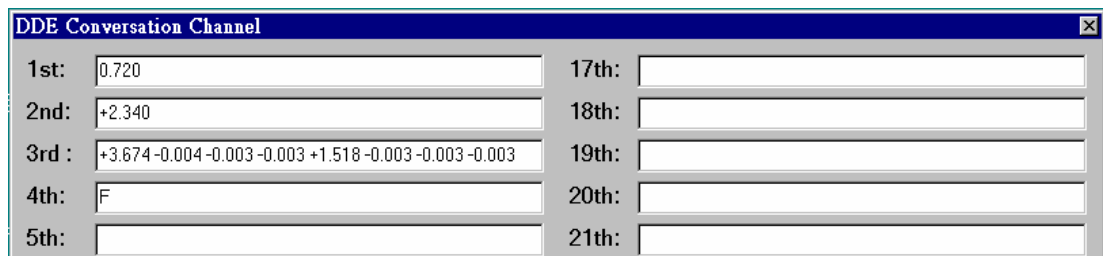

Fig 3-19.
Step 3: Click *Run DDE* button to start DDE hot-link. After that, the DDE Conversation Channel window will pop up as Fig 3-19 shown.